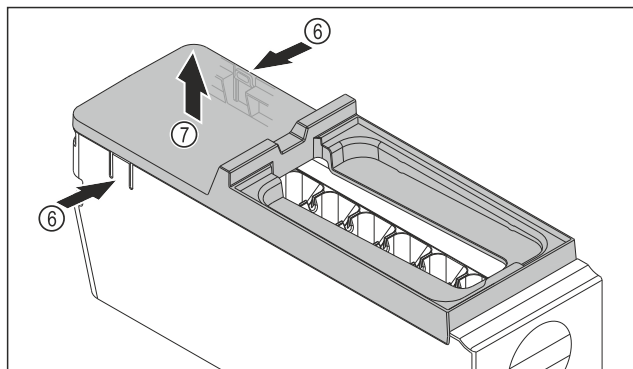

Fig. 79
- Removing the EasyTwist-Ice body cover: Push the tabs Fig. 79 (6) on both sides of the EasyTwist-Ice body with one hand.
- Use the other hand to remove the cover Fig. 79 (7) upwards.